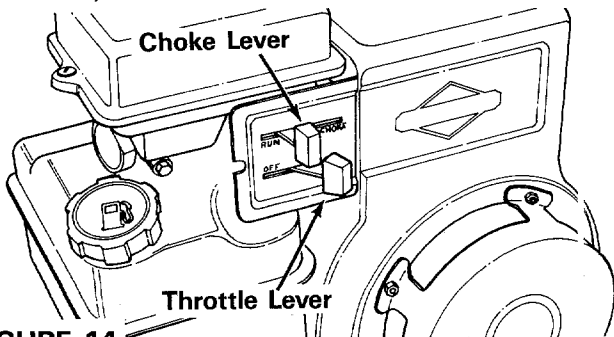

FIGURE 14
- Place throttle control lever on the engine in FAST position. See figure 14.